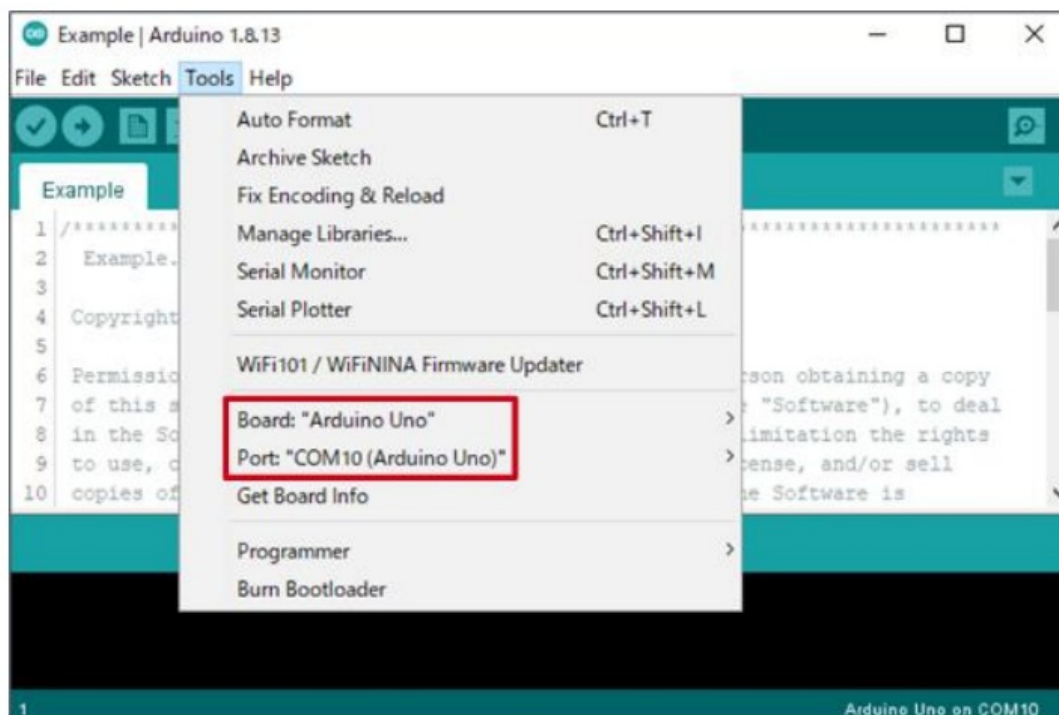

Figure 4. Board and Port Setting
1. Select [Tools]. Set Board to "Arduino Uno" and Port to "COMxx (Arduino Uno)" \*3. (Figure 4) \*3 COM number is different in each environment.